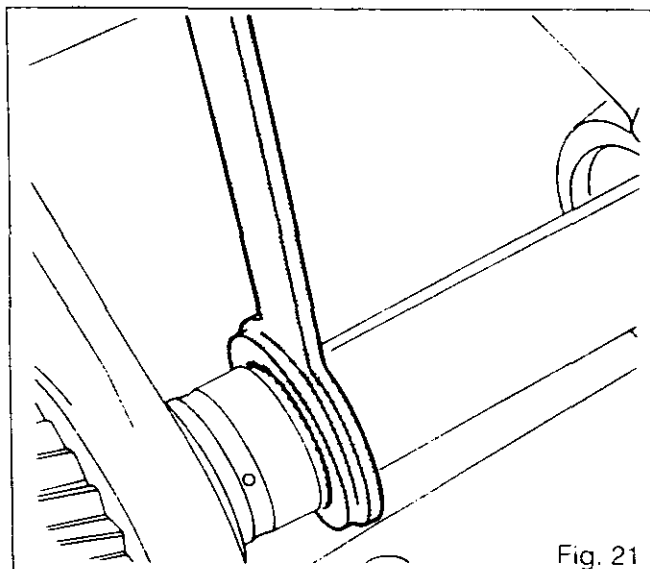
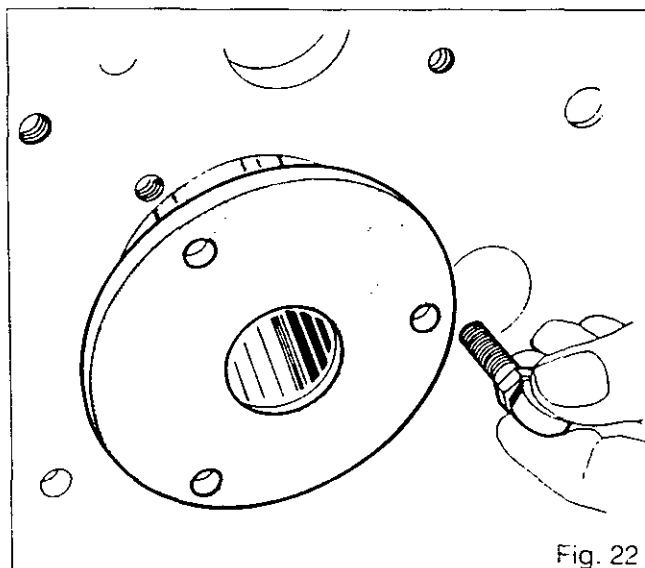
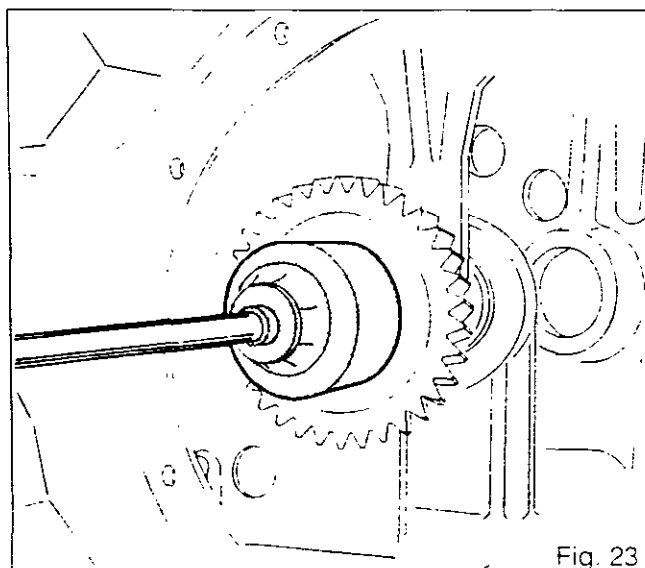

Fig. 21
Fig. 22
Fig. 23
- 51 Remove the synchromesh cup (21)
- 52 Remove the synchromesh cone (20) and the gear (18).
53. Position MF 458 locking tool (Fig.21) and the locally manufactured retainer sleeve for the mainshaft (69) (Fig.22) (See Section U).
- 54 Remove the oil feed pipe (71) and spring (72).
55. Unlock the nut (68) and slacken it using tool 3376805 M1 (Fig.23).
- 56 Remove the input shaft gear (67) and cone (1).
- 57 Remove the washer (6).
- 58 Remove tool MF 458 and the sleeve (Fig.21 and 22)
- 60 From inside the housing remove, in the following order, 2nd gear (14), cone (13), 2nd gear synchromesh cup (12), 1st and 2nd synchromesh (11), cone (9), synchromesh cup (10), 1st gear (7) and its bush (8).
- 61 Withdraw the bearing cups (16) and (2).
- 62 Remove the shims [3], the shim /4\ and circlips (15) and (5).
63. Remove the bearing cone (17) and circlip (70) from the shaft.